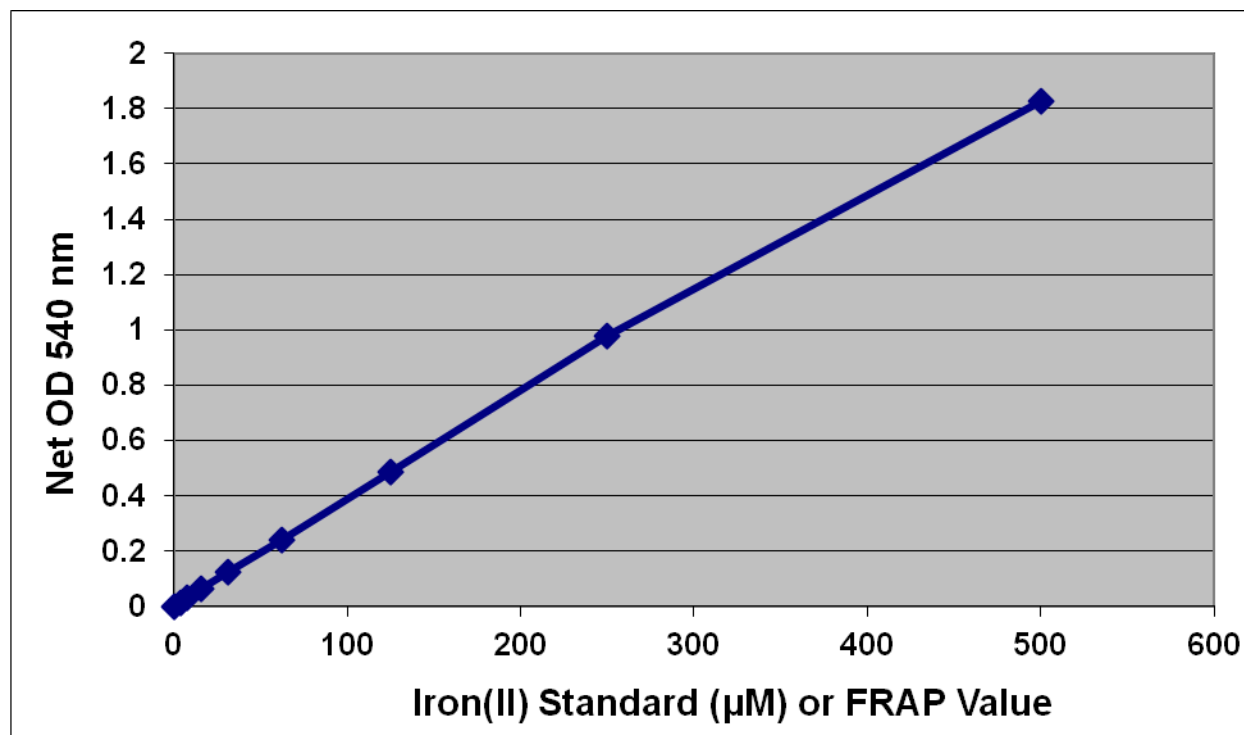

Figure 2. Iron (II) Standard Curve.
3. Graph the standard curve (see Figure 2).